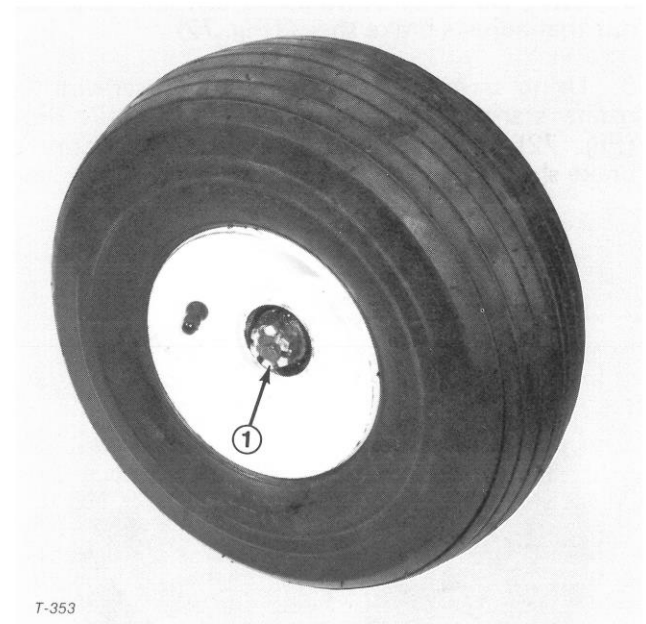

Figure 70
2. Remove dust cap from end of wheel spindle. Also remove cotter pin retaining slotted nut in place (Fig. 70).